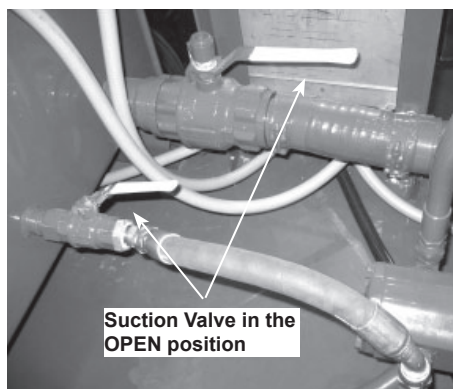

Figure 6 - Suction Valve
**IMPORTANT:** Open suction valves (see Figure 6 - pg. 13) so the hydraulic pump is flooded with oil before turning on the motor (see Prime Pump section - pg. 13).